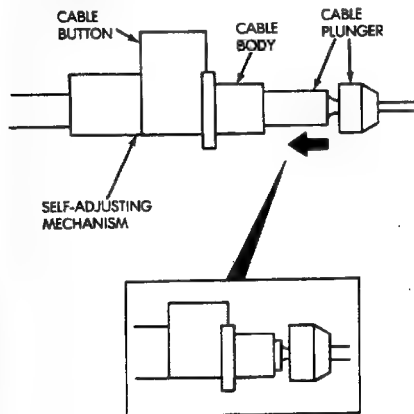

Fig. 29 Retract Throttle Cable Plunger
(1) Turn ignition switch to Off position.
(2) Fully retract cable plunger. Press cable button all the way down. Then push cable plunger inward (Fig. 29).